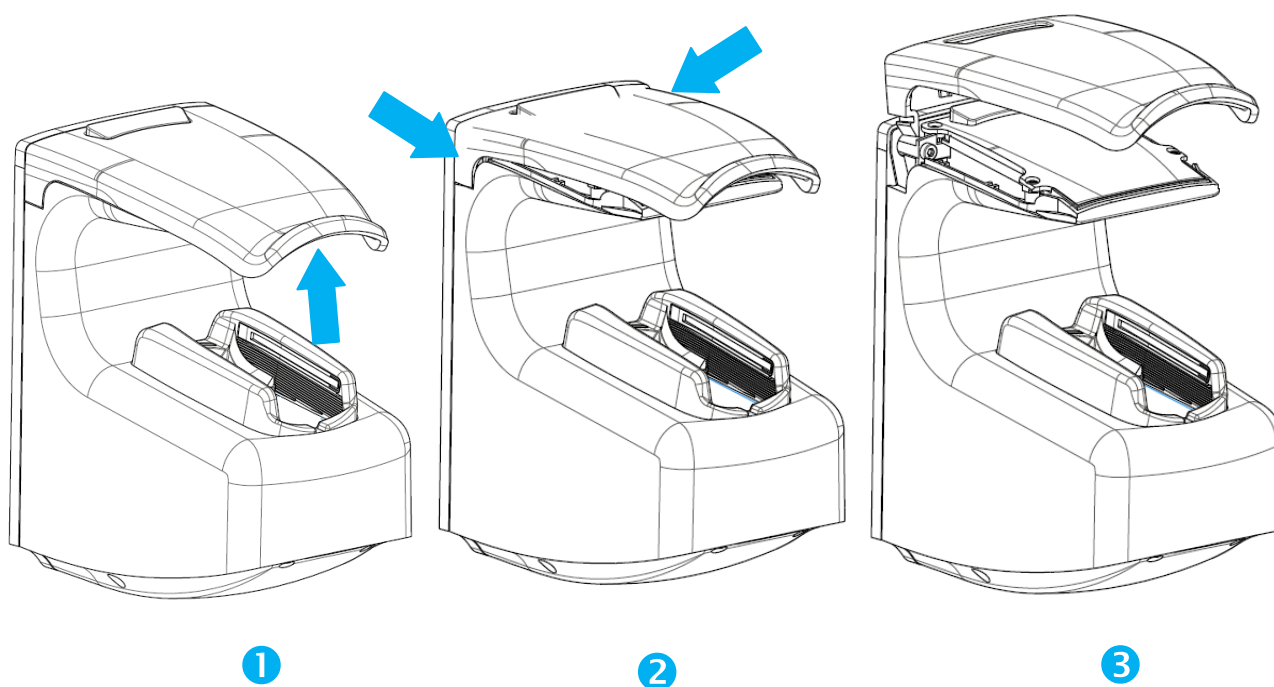
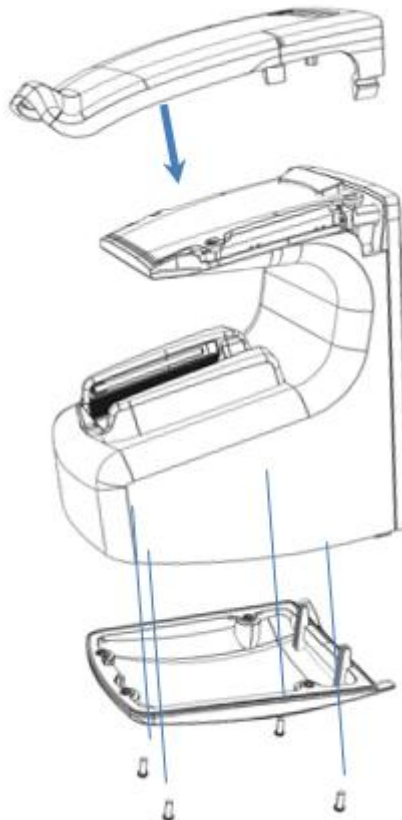

Figure 6: Removing the top cover
Figure 11: Assembling top and bottom covers
- Remove the bottom cover from the terminal (with its gasket), the top cover (see Figure 6 for how to unclip it) and the wall plate. Keep these elements at hand.
11. Clip the top cover (see Figure 6, following steps 1 to 3 in reverse, and Figure 11).
12. Screw on the bottom cover (see Figure 11), using the four K2.5 x 8 screws.
10. Plug the top cover (see Figure 6, steps 1 to 3 in reverse, and Figure 11).
11. Fix the Bottom cover with the screwdriver (see Figure 11), using the four K2.5 x 8 screws.